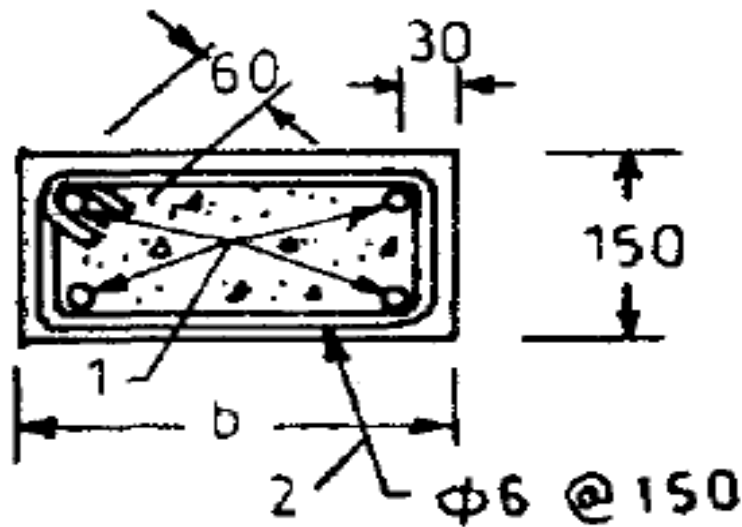

Fig 8:- Detail Reinforcement of Bands provided in house
- Figure 8 shows detail reinforcement of bands provided on Roof, Lintel and Plinth level.